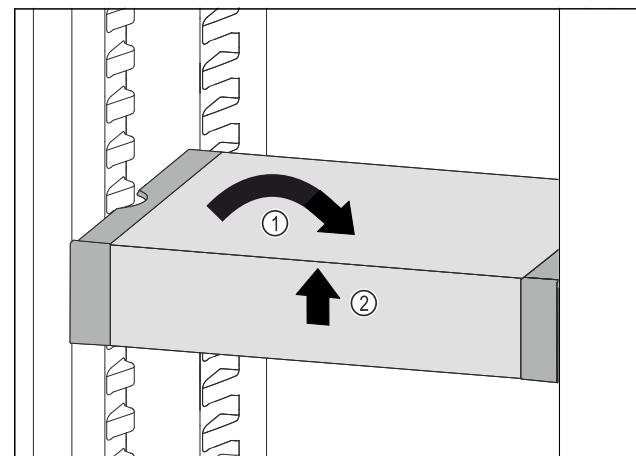

Fig. 99
- ▶ Set VarioSafe straight. *Fig. 99 (1)*
- ▶ Lift VarioSafe at the front. *Fig. 99 (2)*